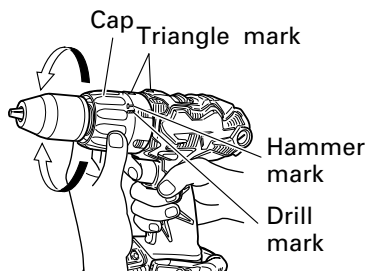

Fig. 21
9. Confirm the cap position <DV18DL> (See Fig. 21)
- (2) Tightening torque indication (See Fig. 21 and 23)
- (3) Adjusting the tightening torque (See Fig. 21 and 23)